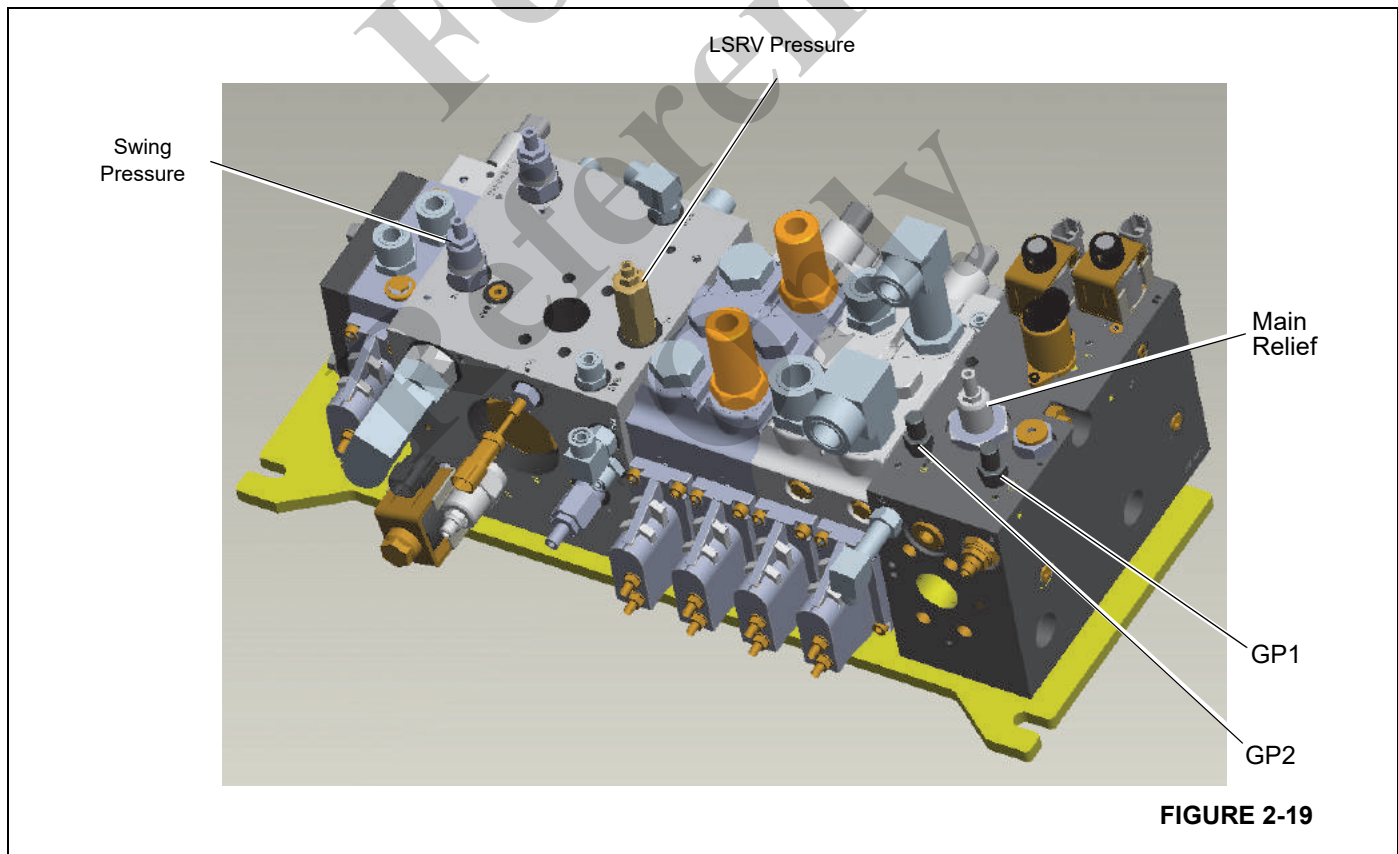

FIGURE 2-19
8. Install a gauge at the pump pressure gauge port (GP1) on the Directional Control Valve (DCV) Figure 2-19.
To check the margin pressure, there are two pressures that will be set as the crane's swing circuit requires 28 bar (400 psi) of back pressure all the time. This means that when a gauge is installed in the load sense port (GP2 in Figure 2-19), the pressure will read the relief that is present in the swing circuit. Therefore, the swing back pressure must be verified first.
After the swing back-pressure and pump margin settings are completed, the pump outlet gauge (GP1 in Figure 2-19) should be as follows:
- Install a gauge at the pump pressure gauge port (GP2) on the DCV (Figure 2-19).
- Install a gauge at the pump pressure gauge port (GP1) on the DCV (Figure 2-19).
than the desired setting of the maximum pump pressure. To do this, raise the LSRV setting (Figure 2-19) by loosening the locknut (1/2 in. hex) and turning the adjustment hex (4 mm) clockwise until bottomed out. This should result in a setting shown in Table 2-5.
2. Install a 414 bar (6000 psi) minimum gauge in the pump gauge port GP1 (Figure 2-19).
3. Increase the pressure compensator (PC) setting until Main Relief Pressure (Table 2-5) is reached on the gauge. There should be an audible hiss at the main relief and the return line back to the hydraulic tank should feel as if there is a large oil flow to tank. This means that the main relief setting has been reached.
4. If the Main Relief Pressure setting (Table 2-5) cannot be reached on the gauge, the main relief valve setting must be increased (Figure 2-19). This can be adjusted by loosening the 3/4 in. locknut and using a 3/16 in. allen wrench to adjust the setting. Turning clockwise increases the setting and each turn gains 91 bar (1315 psi). Be sure to re-tighten the 3/4 in. locknut to 8 Nm (6 lb-ft) when setting is correct.
5. After the desired main relief setting is reached, the pump pressure compensator (PC) setting must be returned to the value from Table 2-5. See "D. Setting Maximum Pump Pressure, page 2-28."
1. Install 414 bar (6000 psi) gauge at the pump pressure gauge port (GP1) on the DCV Figure 2-19.
1. Install a 345 bar (5000 psi) gauge at the pump pressure gauge port (GP2) on the DCV (Figure 2-19).
If the LSRV pressure is not correct, adjust the LSRV adjusting screw as shown in Figure 2-19.